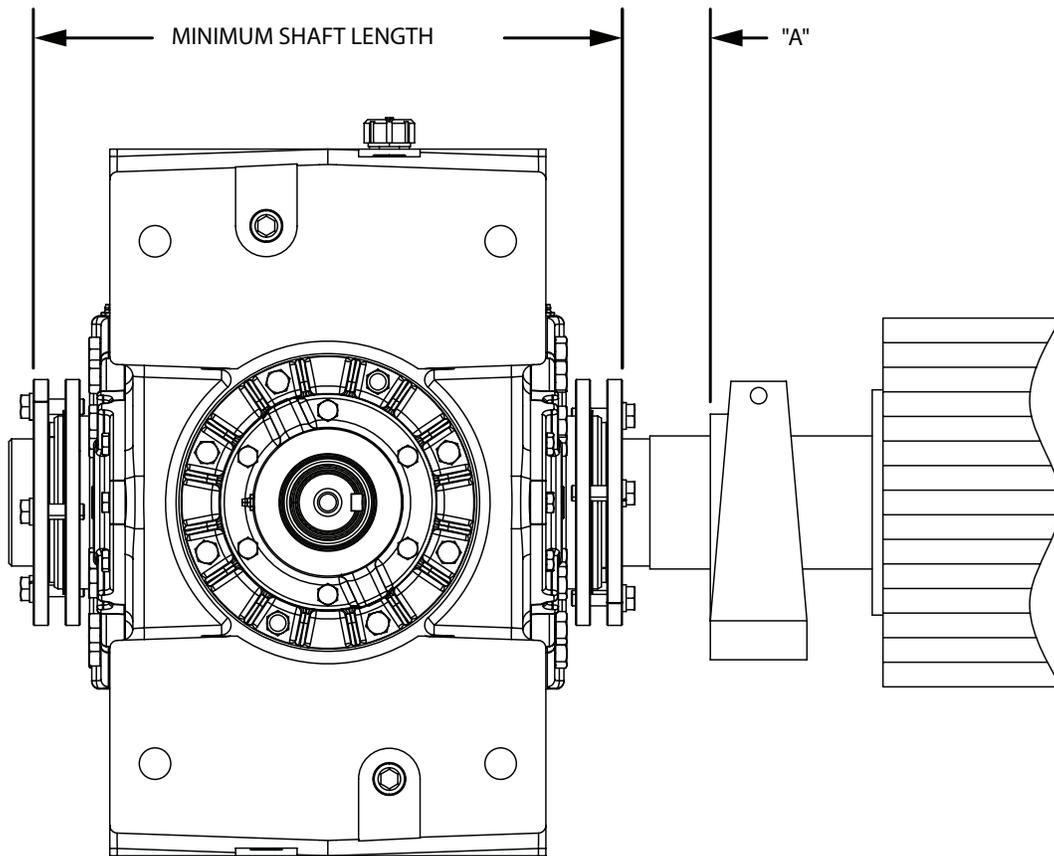

Figure 2 - Minimum Recommended Dimensions
2. The long bushing is designed to be installed from the side of the reducer opposite the driven equipment as shown in Figure 2. The long bushing when properly installed is designed to capture the end of the customer shaft that does not extend through the reducer. Normally the reducer would be mounted such that the input shaft extends from the side of the reducer opposite the driven equipment however the reducer design allows installation of the reducer to be mounted in the opposite direction.
3. Install the tapered bushing wedge into the hollow bore of the reducer from the same side as the long bushing will be installed. When installing the tapered bushing wedge into the reducer hub, install the flange end first so that the thin taper is pointing outwards towards the long bushing as shown in Figure 2. The wedge is properly installed when it snaps into place in the reducer hub.